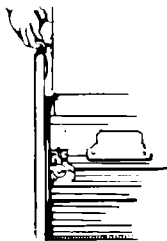

FIGURE 4
- a. Grip handle and raise front of drawer until it clears stops. See Figure 4.